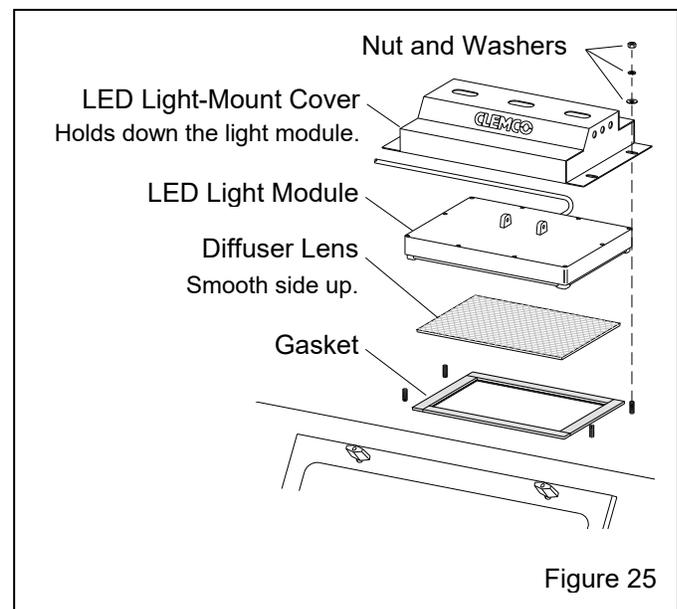

Figure 25
## 7.7 LED Light Assembly – Figure 25
**7.7.1.2** Remove the four nuts and washers that attach the light-mount cover to the cabinet and remove the cover, as shown in Figure 25.
**7.7.2.3** Lay a section of strip gasket along the edge of the opening and cut to length, allowing 3/4" overlap on each end. Peel a short section of adhesive backing and adhere the strip gasket to the top edge of the light opening, as shown in Figure 25. Press the gasket to bond. Repeat the process for each side, compressing the ends to seal.